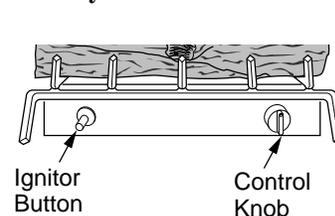

Figure 24 - Control Knob and Ignitor Button Location
4. Wait five (5) minutes to clear out any gas. Then smell for gas, including near the floor. If you smell gas, STOP! Follow "B" in the safety information, column 1. If you don't smell gas, go to the next step.
5. Turn control knob counterclockwise  to the PILOT position. Press in control knob for five (5) seconds (see Figure 24).